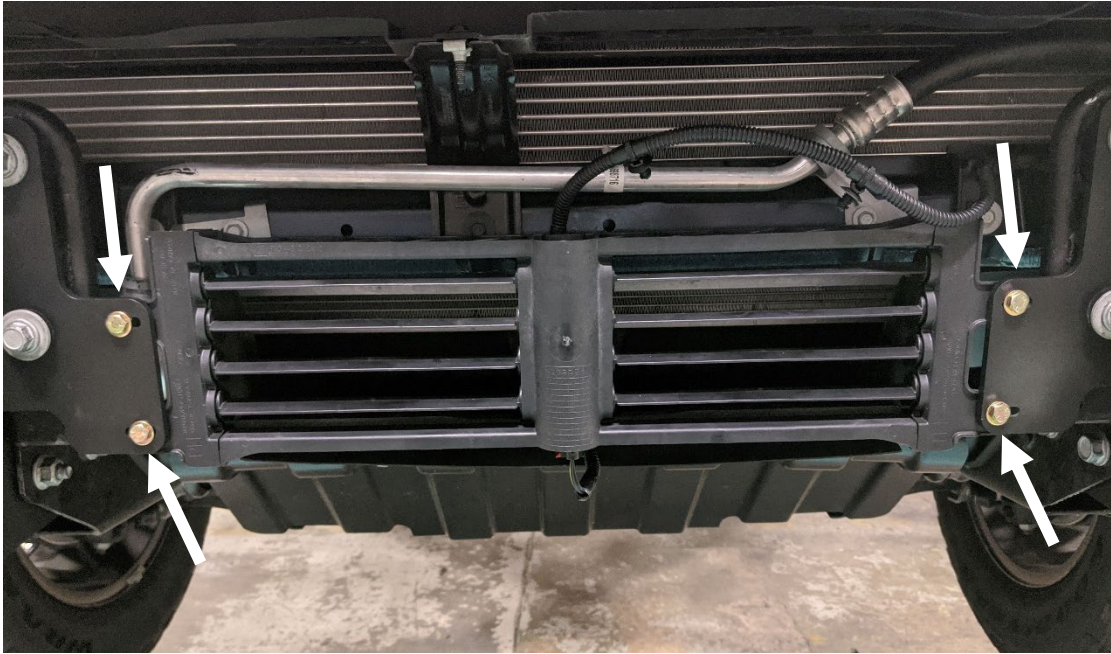

Figure 21
20. Using the provided four (4) bolt stacks of ¼"-20 yellow zinc hex bolt, flat washers, lock washer, and hex nut, loosely install the factory louver system with a ½" socket wrench. (Figure 21) (50250-HW)